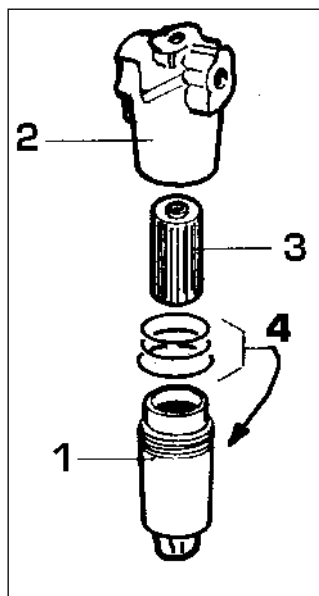

fig. 20
**Replacement of the filter on the delivery line (before the distributor) fig. 20**
- Unscrew with a suitable spanner the filter body (1) from the head (2).
- Remove the cartridge (3) and clean inside the filter body (1).
- Insert a new cartridge and re-assemble the filter body into the head (check the sealing (4)).